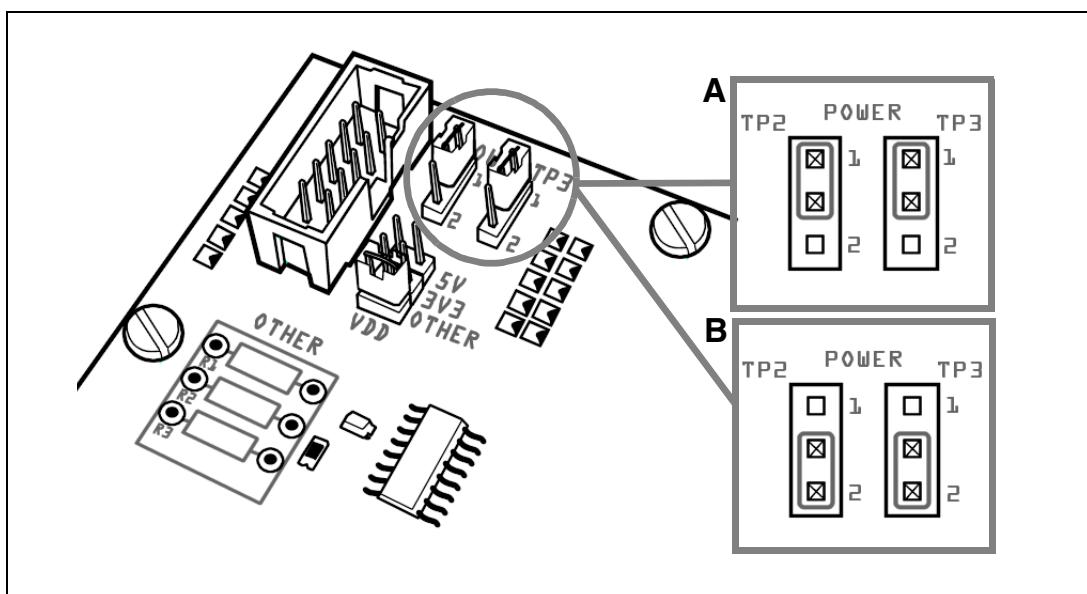

Figure 4: Power supply jumper positions
- 2 Set both **POWER** jumpers to the **2** position, as shown in *Figure 4, inset B* .
- Set **POWER** to **1** if the socket board is supplied by the ST7-STICK, as shown in *Figure 4, inset A*.
- Set **POWER** to **2** if the socket board is supplied by its own power supply as shown in *Figure 4, inset B*.